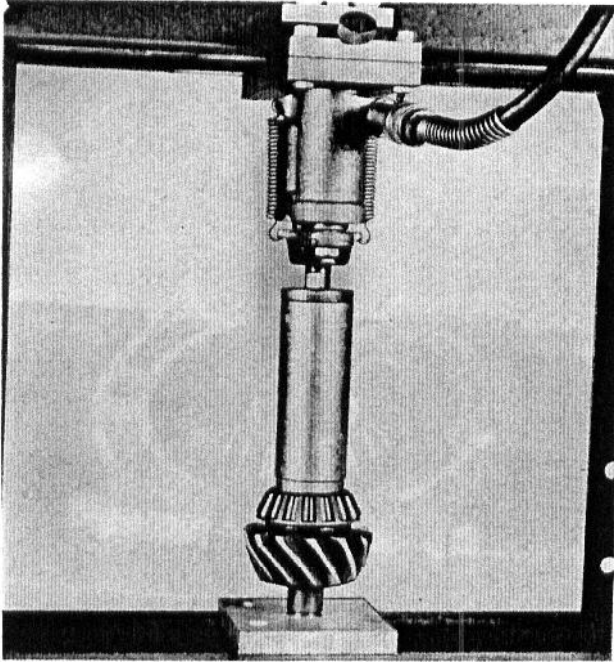

Fig. 59 - Installing Rear Pinion Bearing Cone
1. Install the rear tapered roller bearing on the drive pinion shaft as shown in Fig. 59.